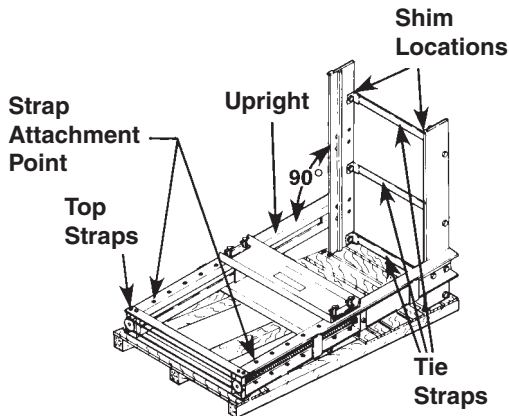

FIGURE 3
3. See Figure 3. Assemble the uprights parallel to each other. **NOTE: The inside surface measurements must be the same at the top and the bottom.** Secure with straps on the top and tie straps and shims on the bottom. The upper straps and the side plates must be positioned 90° to the uprights. Check all measurements again. Torque sideplate fastening screws to 800/900 ft. lbs. (1088/1224 N•m). Torque top and tie strap fastening screws to 70/80 ft. lbs. (95.2/108.8 N•m).